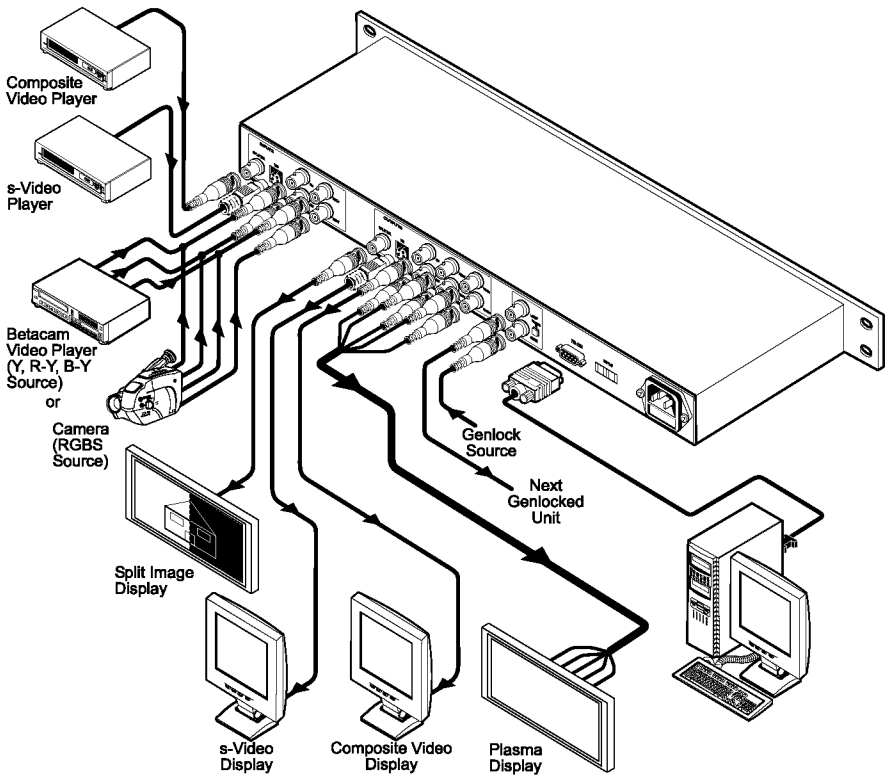

Figure 3: Connecting the SP-10D Digital Video Processor
You can use your **SP-10D** to convert composite video, s-Video, or component video (YUV or RGB/S) signals to composite video, s-Video, and¹ component video (YUV, RGsB, RGBS, RGBHV). The processing can be evaluated on a “Before/after” split-screen, as the example in Figure 3 illustrates.
8. Connect the power cord⁴ (not illustrated in Figure 3).
The example in Figure 3 illustrates how to connect your **SP-10D**: